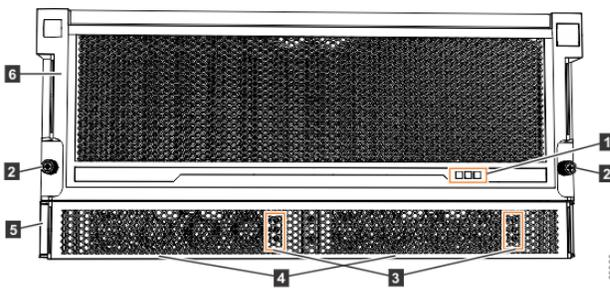

Figure 56. Features on the front of the 5U expansion enclosure
Important: Before you connect the power cables to the rear of the enclosure, always check that the expansion enclosure is secured in the rack. If needed, tighten the thumbscrews on the front of the enclosure (2 in Figure 56 on page 98) to ensure that the enclosure drawer does not roll open.
The 5U expansion enclosure has two power supply units (PSUs) that are accessible from the front of the enclosure (4 in Figure 56 on page 98). As the figure also shows, the PSUs are covered by the 1U fascia (5).
On the front of the enclosure, the indicators on the front display panel and each PSU (1 and 2 in Figure 56 on page 98) are also lit when the power is connected. See “High density expansion enclosure LEDs and indicators” on page 244 for information about the status that is provided by the indicators.